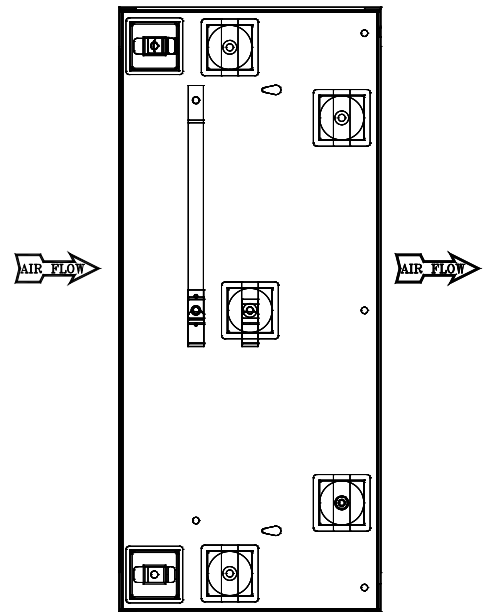

FIGURE 6 – CORRECT CELL ORIENTATION
2. Insert the electronic cells into the cabinet with THIS SIDE OUT label facing the door opening. Make certain the arrow stamped on the cell points downstream. See Fig. 6.